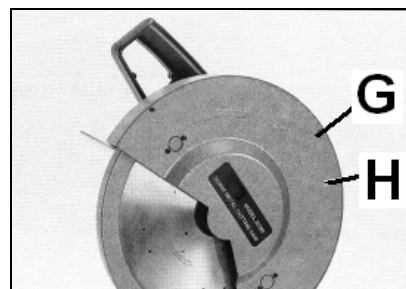

Fig 6
Loosen the 3 screws (G, fig 6) and remove the saw guard (H).